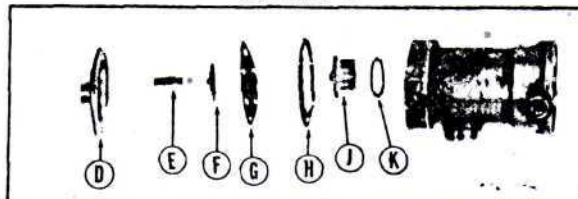

FIGURE 7
2. Remove pressure regulator spring (E, Figure 7), regulator button (F, Figure 7), diaphragm (G, Figure 7) and gasket (H, Figure 7).
3. With 1-1/8" wrench remove the regulator valve assembly by turning counter-clockwise (J, Figure 7).
4. Remove gasket between valve and pump body (K, Figure 7).
2. Check for broken or distorted regulator spring (E, Figure 7). The normal length is 7/8".
3. Install gasket (K, Figure 7), diaphragm (G, Figure 7), button (F, Figure 7), and regulator spring (E, Figure 7). Make sure the spring is perpendicular and can move freely in the adjustment screw before tightening pressure cover with six screws at top of pump.